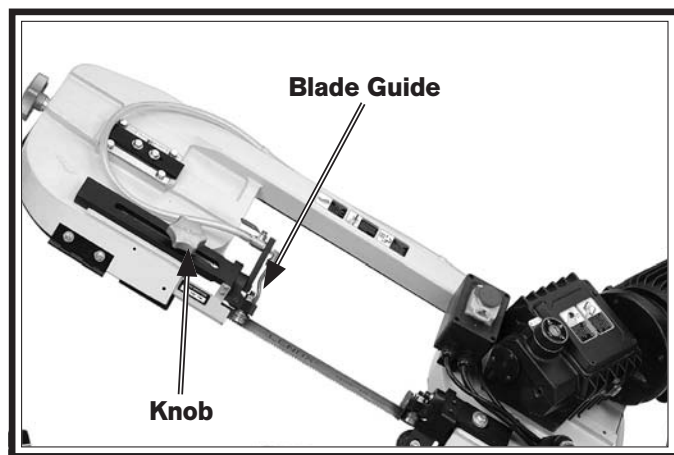

Figure 31. Blade guides.
2. Loosen the knob shown in **Figure 31** and slide the blade guide as close to the workpiece as possible, then re-tighten the knob.